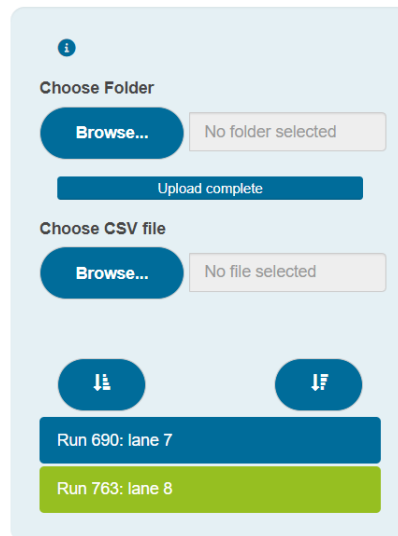

Fig. 4.4. All uploaded runs will appear in the navigation bar.
3. Once the upload is complete the runs will appear in the *navigation bar*. To upload multiple files/folders click the Browse button again, and these new runs will appear in the *navigation bar* (Fig. 4.4).